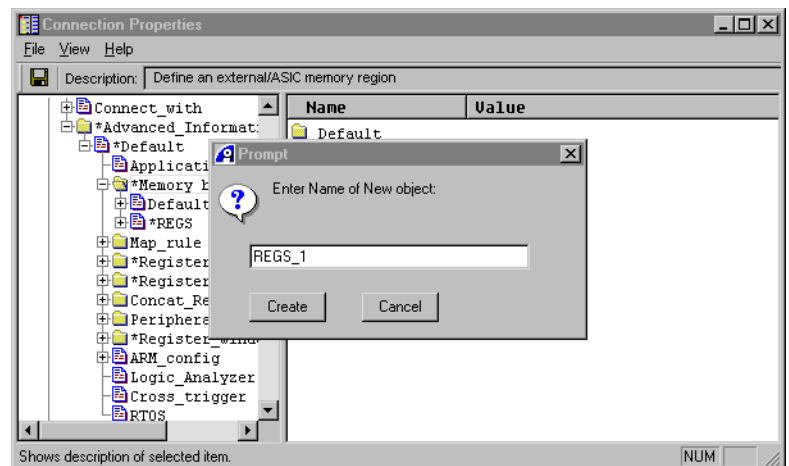

Figure 3-31 Creating a new memory block
3. Right-click on the REGS entry, in the left pane, and select **Make New...** from the context menu (Figure 3-31).